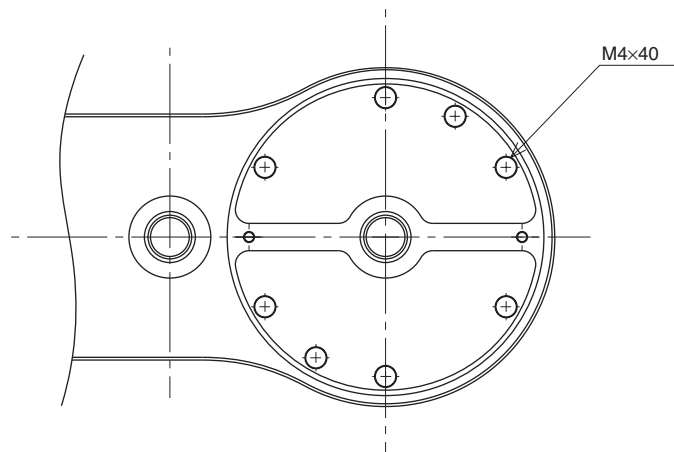
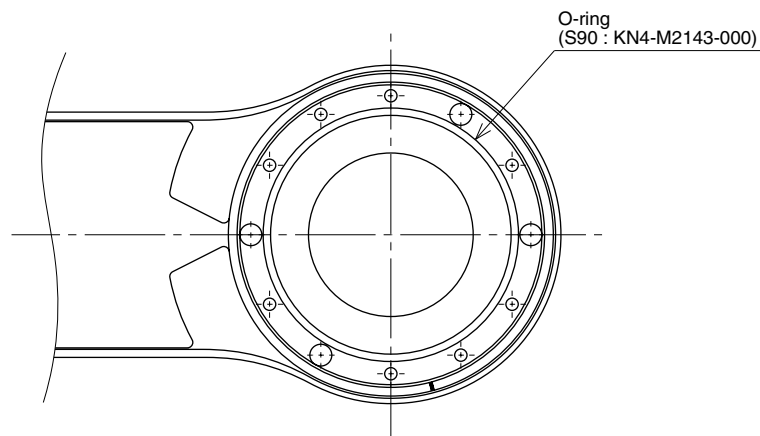

Fig. 5-19
Fig. 5-20
- 11) Remove the X-axis arm installation bolts (M4×40L, 8 pieces). (See Fig. 5-19.)
AN O-RING IS FITTED TO THE X-AXIS ARM, SO BE CAREFUL NOT TO LET IT DROP INTO THE PERIPHERAL UNIT. (SEE FIG. 5-20.)
- 17) Fit a new O-ring into the O-ring groove on the X-axis arm (see Fig. 5-20) and secure it to the harmonic drive. Then apply small amounts of “Screw Lock” to the bolts (M4×40L, 8 pieces) you removed earlier and tighten them uniformly to secure the X-axis arm. (See Fig. 5-19.)